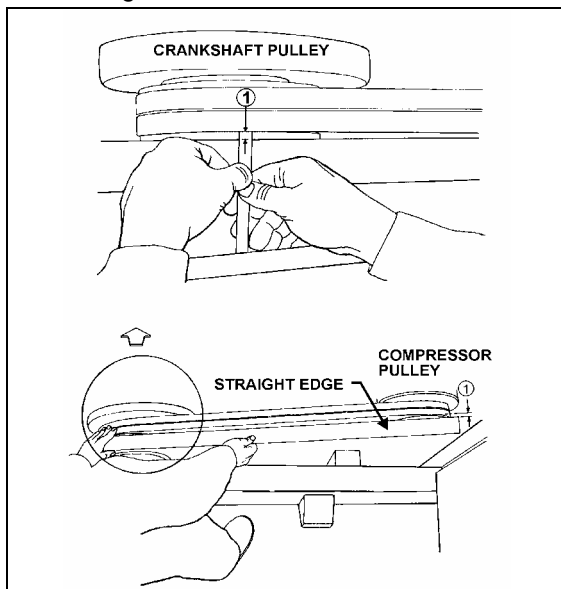

FIGURE 24: COMPRESSOR ALIGNMENT
2. Check the distance between each extremity of straight edge (1. Fig. 24) and the first drive belt. If they are different, loosen the compressor support bolts and with a hammer, knock support to slide it in order to obtain the same distance; then tighten bolts.
2. Check the distance between each extremity of straight edge (1, Fig. 24) and drive belt. If they are different, loosen the pillow block compressor bolts and with a hammer, knock compressor pillow block to slide it, in order